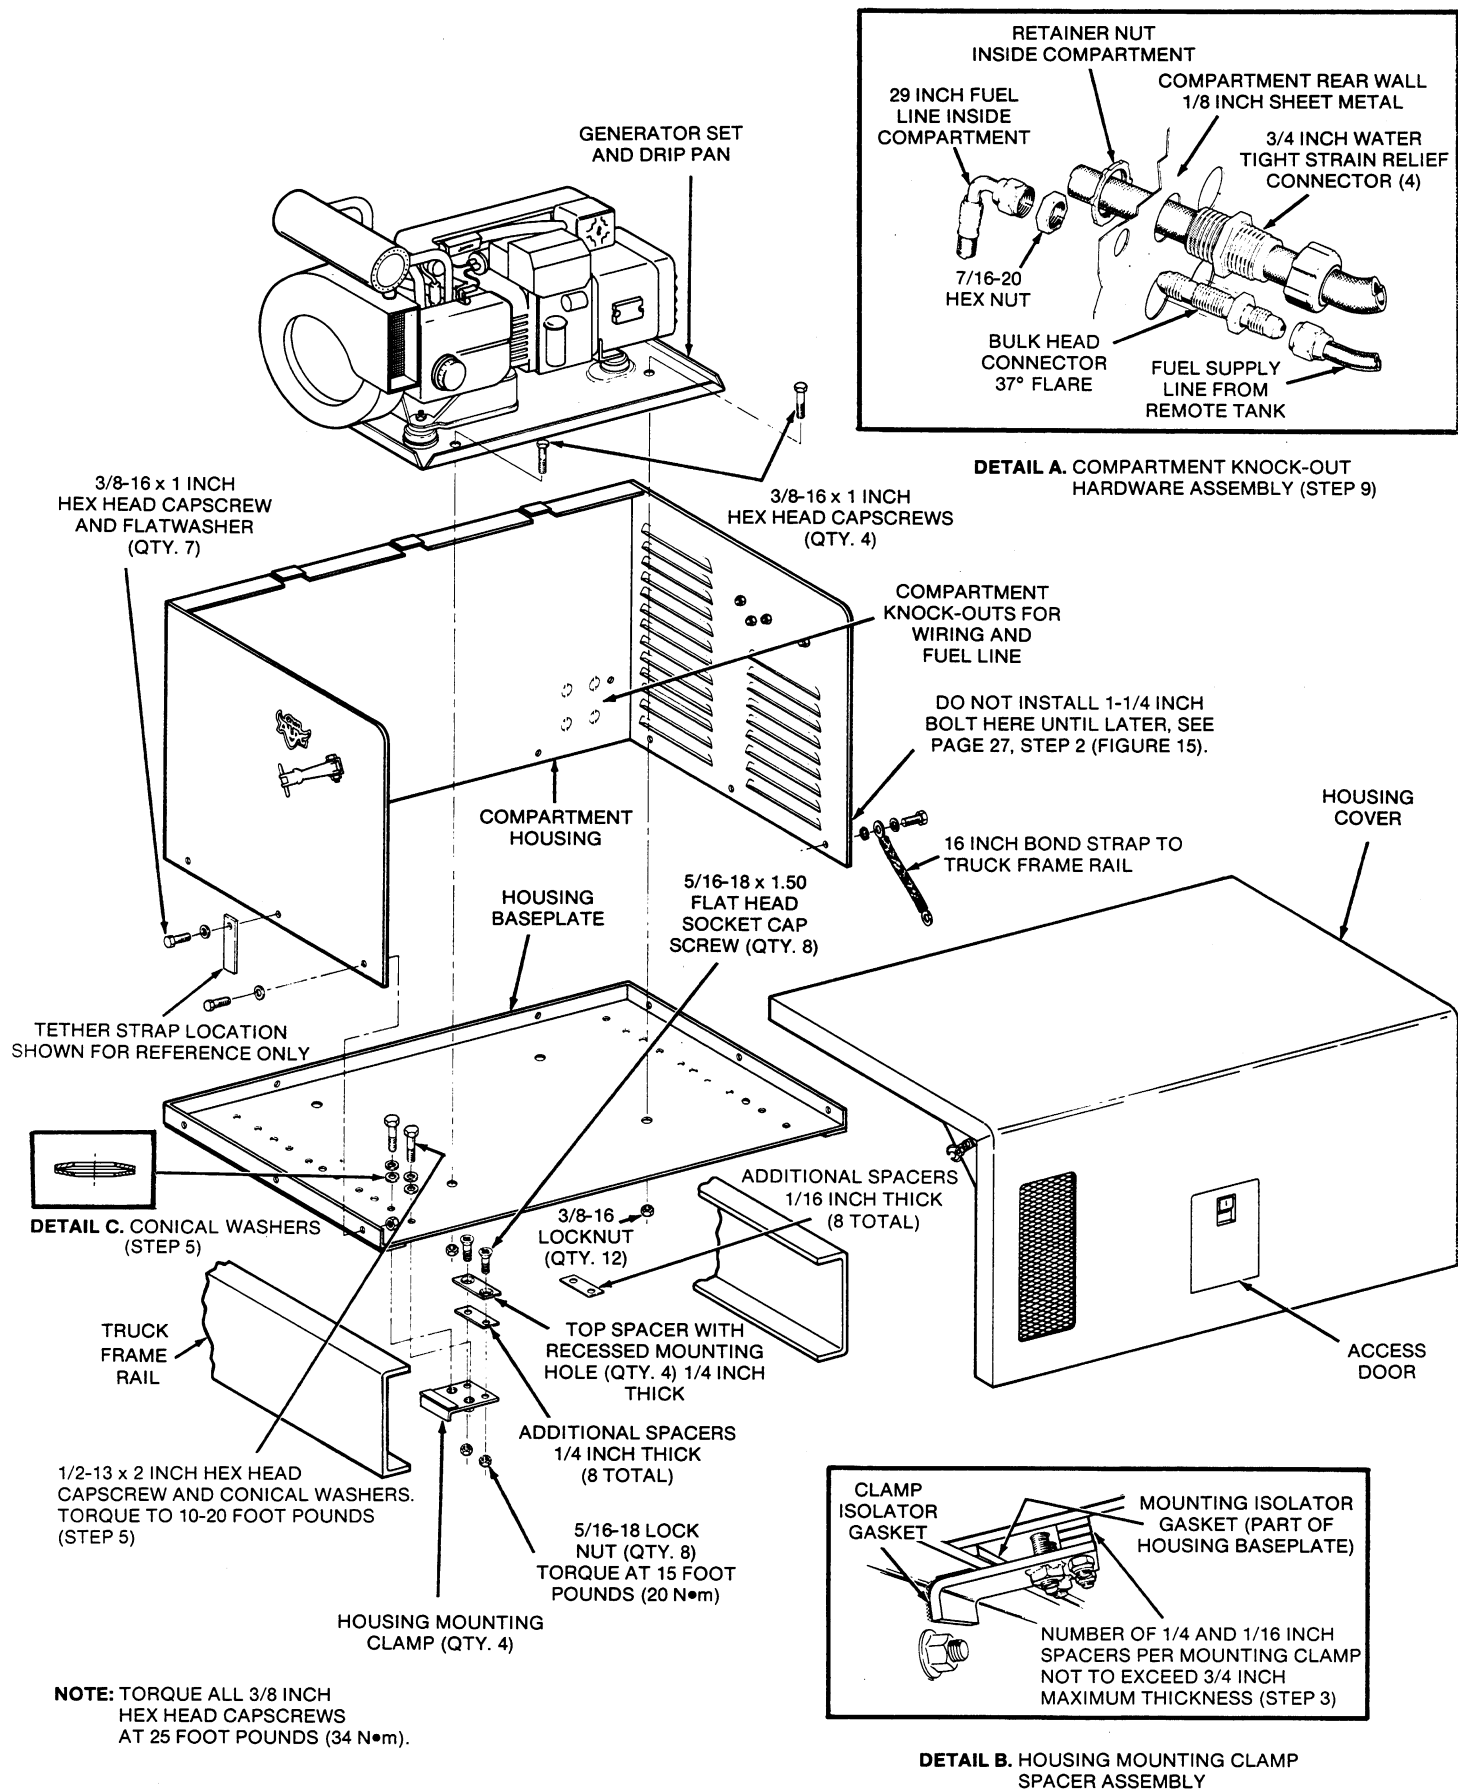

FIGURE 7. OVER-THE-RAIL MOUNTED GENERATOR SET AND COMPARTMENT ASSEMBLY
COMPARTMENT INSTALLATION (Figure 7)
3. Temporarily hold one mounting clamp in position (inside from underneath) against top frame rail flange of truck as shown in Figure 7. Determine the number of 1/4 inch and/or 1/16 inch thick spacers (in any combination NOT to exceed 3/4 inch per mounting clamp) required to fill any gap between baseplate and mounting clamp under baseplate. These spacers are necessary to balance out the leverage of each mounting clamp. The number spacers used will vary depending upon the thickness of the truck frame rails. Total thickness of spacers used must match truck frame rail flange thickness under each of the four mounting clamps. Use the same combination and number of spacers with each of the four mounting brackets. Do NOT exceed the 3/4 inch maximum spacer thickness. See Figure 7, detail B.
4. Remove housing mounting clamp and assemble required number of spacers to all four mounting clamps using 5/16-18 x 1-1/2 inch allen head cap screws and 5/16 lock nuts provided. Torque nuts to 15 foot pounds (20 N•m). See Figure 7. Top spacer has recessed mounting hole to accept special allen head capscrews.
screw positioned as shown in Figure 7, detail C. Tighten all eight capscrews until conical washers are flat (approximately 10-20 foot pounds-13.5-27 N•m). Mounting clamps have weld nuts to simplify installation. These special washers determine the correct amount of clamping force on the bearing surfaces of the mounting clamps. The mounting bolts are torqued correctly when the special conical washers are flat. See Figure 7 and detail C.
2. Position set so that the four mounting holes in set mounting tray line up with mounting holes in housing baseplate as shown in Figure 7.
4. Position housing in place around baseplate as shown in Figure 7. Install seven 3/8-16 x 1 inch hex head capscrews, flat washers and lock nuts as shown in Figure 7. Torque to 25 foot pounds (34 N•m).
5. A tether strap shown in Figure 7 must be installed under any one of the five hex head capscrews (step 4) on the side of the housing to control movement of the set when the truck is in operation. Location shown in Figure 7 is for reference ONLY.
7. Install 7/16-20 bulkhead connector (SAE 37° flare fitting) into 1/2 inch O.D. hole in generator end of compartment rear wall (see Figure 7, detail A). A 7/16-20 hex nut is used to hold flare fitting in place. Install nut on the inside of the housing rear wall.
8. Connect 28 inch fuel line between fuel pump inlet elbow and bulkhead connector in rear wall of housing (installed in step 6). Connect the 90° elbow fitting to the bulkhead connector in the compartment rear wall. Connect the opposite end with straight flare fitting to fuel pump inlet elbow fitting installed in step 5. See Figure 7, detail A.
9. Pre-located knock-outs (shown in Figure 7, detail A) are used for entry of AC wiring, DC wiring and both battery cables.
10. Install 3/4 inch water-tight metal strain relief connectors in all four knock-outs to secure and seal all wiring and cables as shown in Figure 7, detail A. Do not tighten since wiring and battery cables will be installed later. Optional power and control wiring kits (containing these connectors) are available from Onan to complete the installation. See Electrical Loads and Connections section.